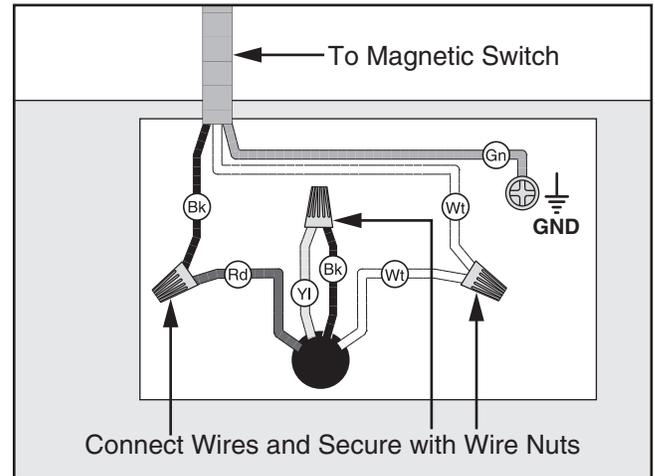

Figure 8. Motor junction box rewired to 220V.
5. Use wire nuts to connect wires, as shown in **Figure 8**. Twist wire nuts onto their respective wires and wrap them with electrical tape so they will not come loose.